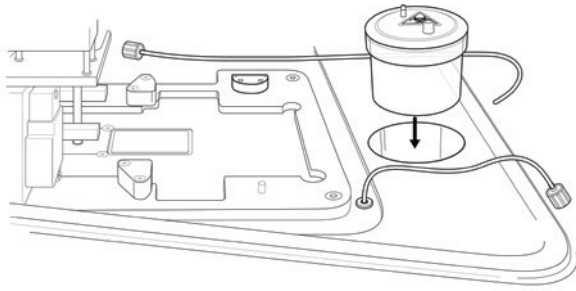

Fig. 14. Place waste jar in position.
- Place Waste Jar in position at the base of the station bays nearest the user (Figure 14).